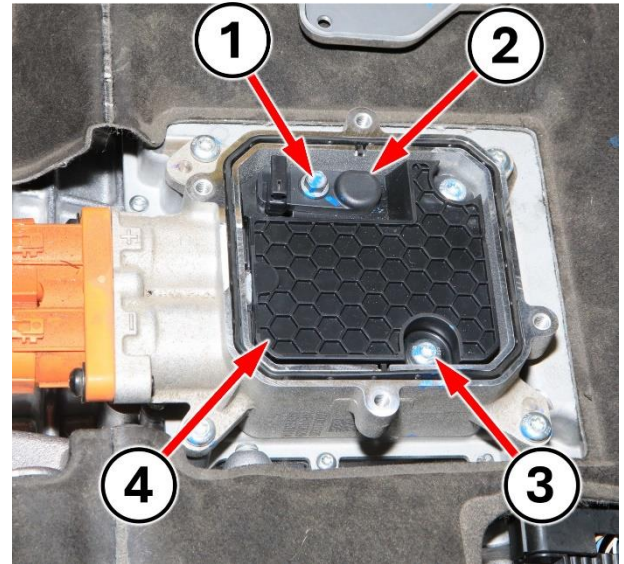

Figure 48 – EDM Guard Plate
- 97. Install the guard plate (4) to the EDM (Figure 48).
- 98. Install the three guard plate screws (3) and tighten to 8 N·m (70 In. Lbs.) (Figure 48).
- 99. Install the HVIL (2) then install the screw (1) and tighten to 6 N·m (53 In. Lbs.) (Figure 48).